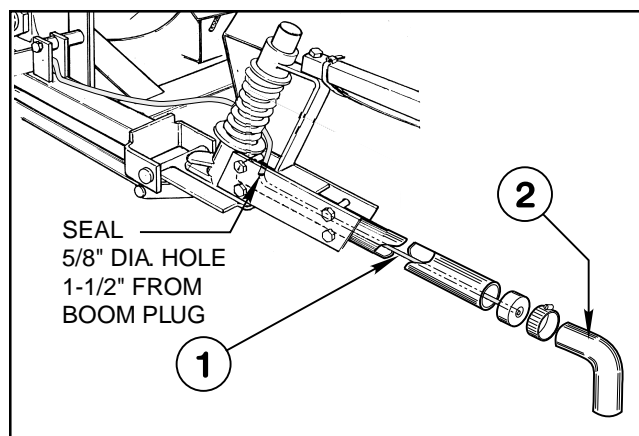

Fig. 7
16. Insert Boom Hose into 5/8" hole drilled in Boom Pipe, and push it into Boom Pipe until 2-3 inches of Boom Hose is extending beyond the opposite end of the Boom Pipe. (Fig. 7)
17. Replace the solid Boom Caps with the Punched Hole Boom Caps that are provided in Foam Marker Kit. (Fig. 7)
18. Lubricate the inside of the Extension Hose and slide it over the Cap and Foam Marker Hose and onto the Boom Pipe. Secure with hose clamp. (Fig.7)